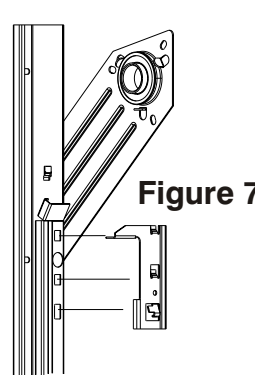

Figure 7
1. Insert tabs on bottom bar stops into corresponding holes on the guides. See Figure 7.